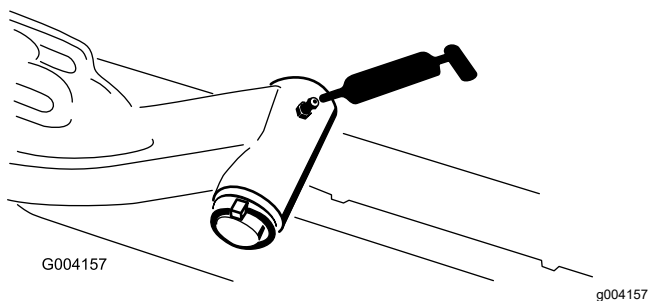

Figure 67
- Lift-arm pivot shaft (1 each)—Figure 67